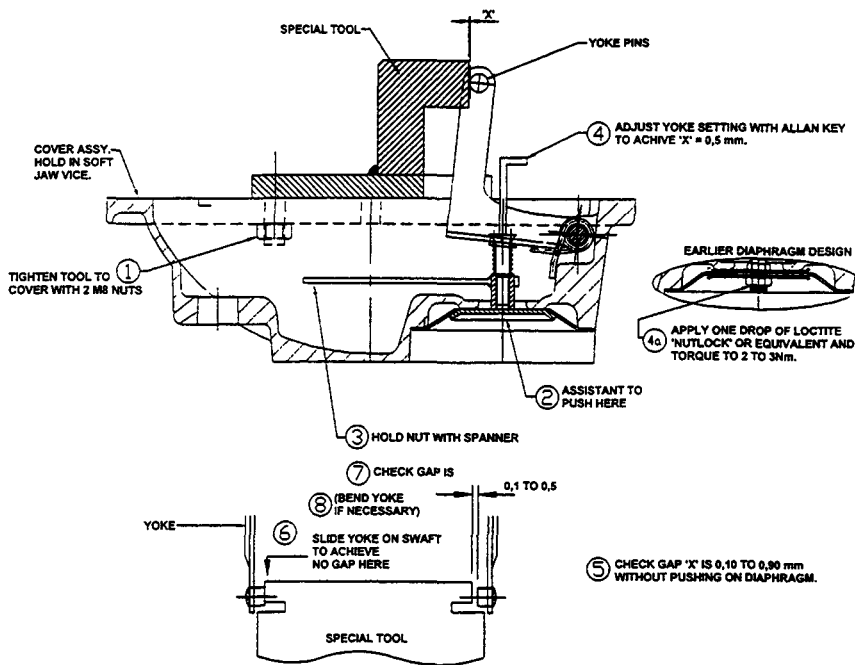

Figure 3
- Bolt the special tool to the cover as shown in Fig. 3. Tighten the nuts.
4. The special tool is also designed to check that the yoke pins are the correct distance apart. There should be a gap of 0,10 to 0,50 mm between one end of one pin and the tool when the outer pin end is in contact with the tool (Fig. 3). The yoke can slide on the shaft to achieve this. Bend the yoke if necessary.